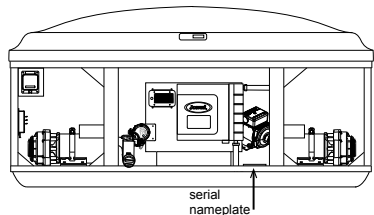
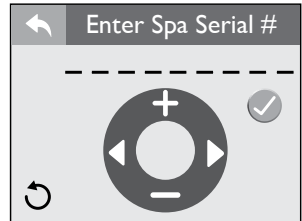

Figure 10.2b
Figure 10.2c
Registering your spa is important in order to validate your warranty. In order to register you will need to have the spa serial number, Figure 10.2b, then you will need to register online in order to receive a passcode (not applicable to export models). A passcode is only given for North American models only. The passcode must be entered on the control panel in order to unlock the Registration Lockout screen, Figure 10.2c.
2. Input the 9-digit serial number, Figure 10.2c. If your serial number begins with a letter, use the  or  buttons until the letter is displayed.